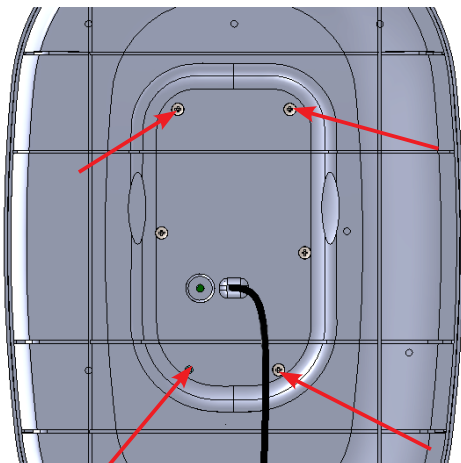
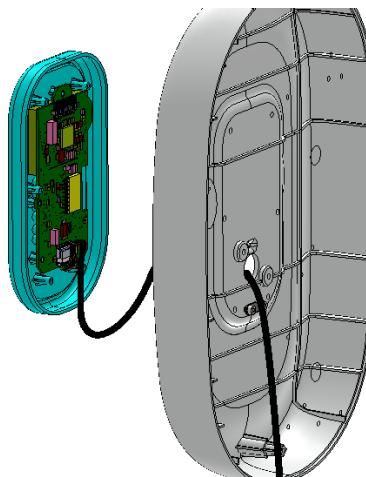

Figure 127
Figure 128
- Remove the console assembly from the base unit front cover by removing 4 M3x16 self tapping screws using star screw driver as shown in Figure 127 and Figure 128 .
- Route the cable through the slot provided on the base unit front cover as shown in Figure 128 and fix the console assembly to the front cover with 4 M3x16 self tapping screws using phillips screw driver as shown in Figure 127 .